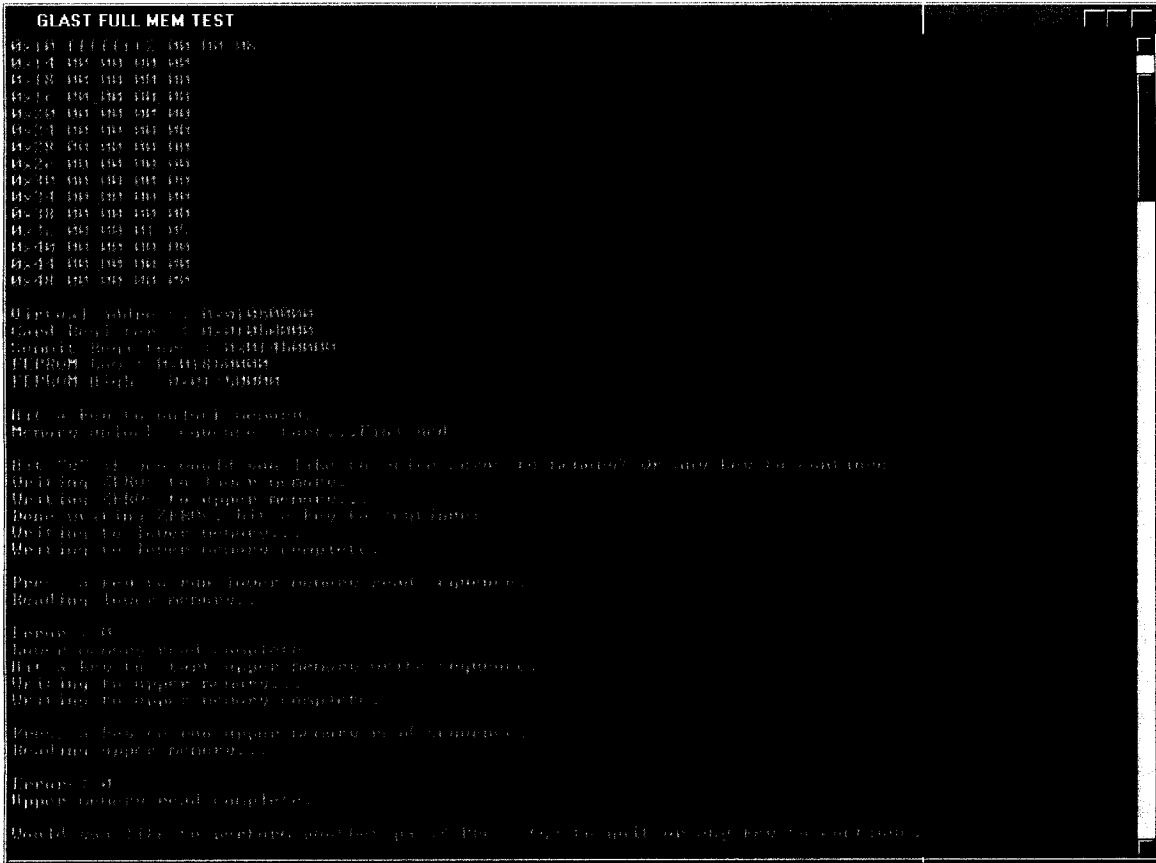

FIGURE 6, GLAST Full Memory Test screen capture.
- 127. Run GLAST FULL MEM TEST, reference Figure 6